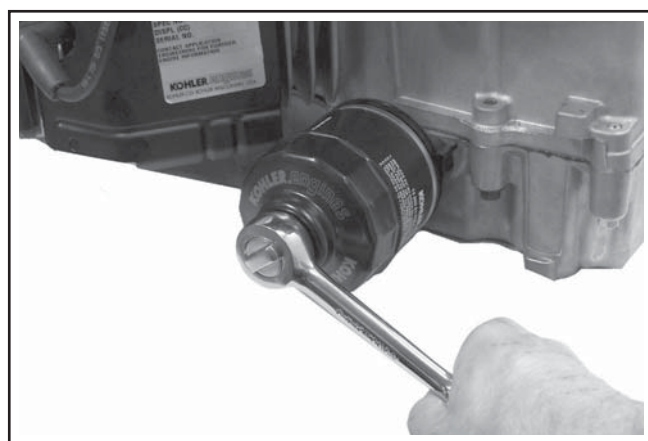

Figure 8-3. Removing Oil Filter.
3. Remove and appropriately discard the oil filter. See Figure 8-3.